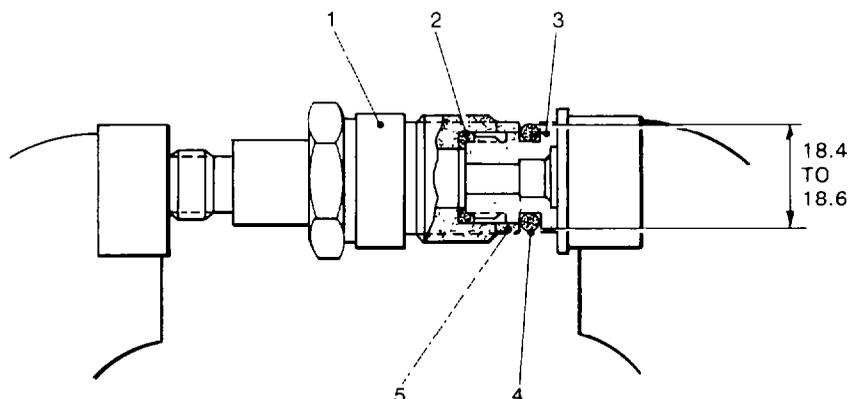

Figure 130 Fitting the Delivery Valve
- (3) Fit soft jaws to a bench vice; clamp the delivery valve holder (1, Fig 130) and the valve (3) in the vice; use the vice to compress the holder and guide until the holder butts onto the washer (2) on the guide.